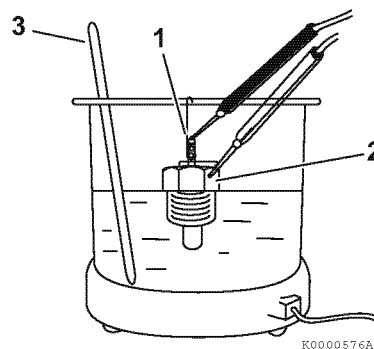

Figure 8-6
1. Check for proper operation of the temperature switch. Connect a continuity light or ohmmeter to the temperature switch. Connect one lead to the terminal of the switch (Figure 8-6, (1)) and the other lead to the metal portion of the switch (Figure 8-6, (2)).
2. Place the temperature switch and an accurate thermometer (Figure 8-6, (3)) in engine coolant.